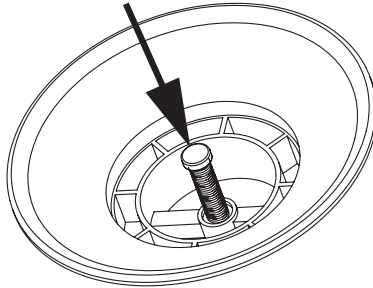

Figure 1. Inflate/Deflate of 2-way Military Valves
Your Packlite+ Packraft uses two types of valves. The 2-way military valve found on the main air chamber and the drop-stitch floor has the function and durability of other military type valves and is compatible with most standard pumps. *Figure 1* on the next page details how to operate this valve.
1. If using the drop-stitch floor, check to be sure the valve plunger is in the **UP** or **Inflate** position (See Figure 1). Using the appropriate pump adaptor, inflate Floor Chamber "2" until firm (4-6 psi **MAX**). If not using the floor, skip to step 2.
2. Moving to Main Chamber 1, check to be sure the valve plunger is in the **UP** or **Inflate** position (See Figure 1). Using the appropriate pump adaptor, inflate Main Chamber 1 until firm to the touch (1-1.25 psi **MAX**).
1. Remove the cap/s from the main valve/s and push the valve stems inward and rotate to the **Down** or **Deflate** position (See Figure 1).